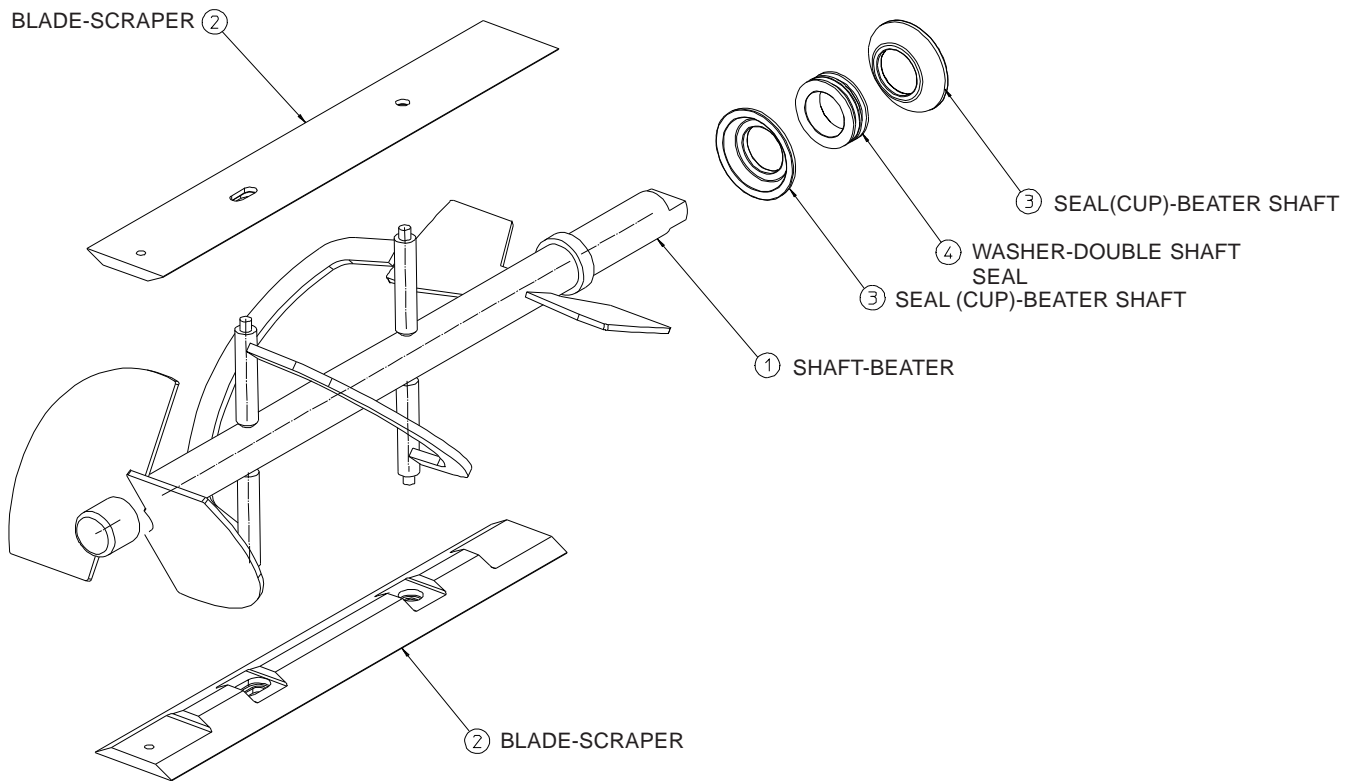

Figure 6-3 Beater Shaft Assembly
11. Remove the beater bearing bushing (figure 6-2, 3) and beater shaft (figure 6-3) from the cylinder. Then remove the scraper blades (2) and shaft seal (3,4) from the beater shaft (1). Remove the cup seals (3) from the washer (4) on the shaft seal assembly. Remove the drip tray.